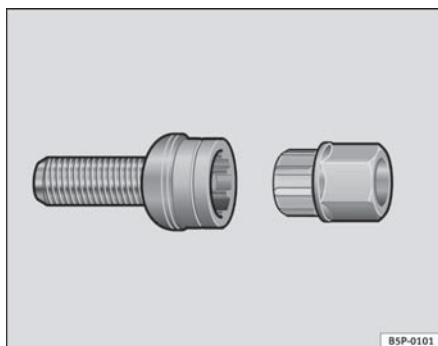

Fig. 151 Anti-theft wheel bolts
- Insert the adapter onto the wheel bolt and push it on as far as it will go ⇒ fig. 151.